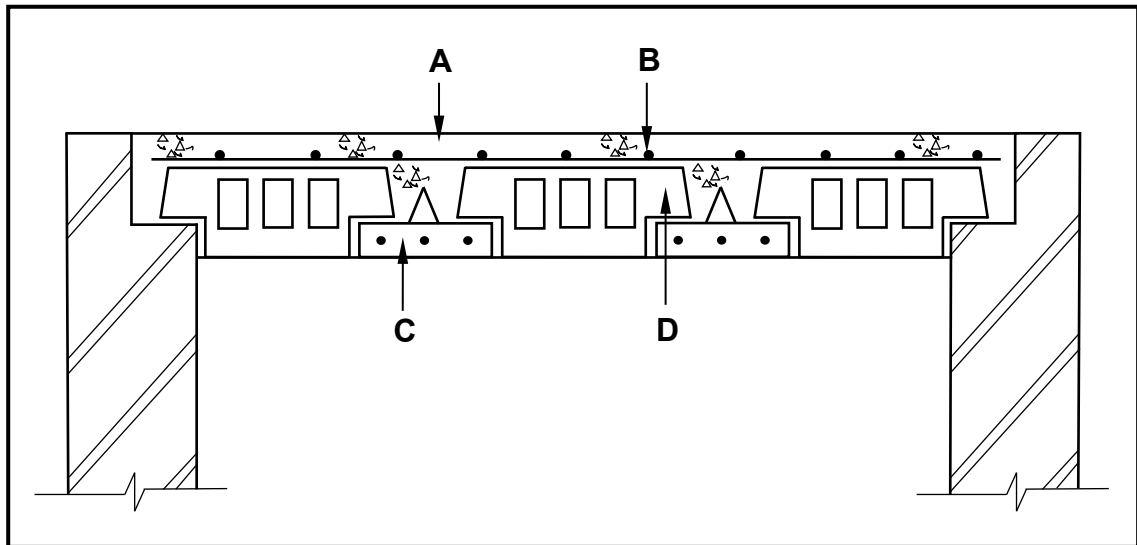

FIGURE 6.2
- D Allowing sufficient curing time before loading (1)
6.2 FIGURE 6.2 below illustrates a suspended floor.